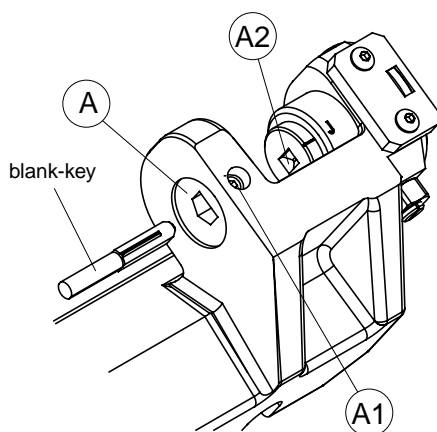

Fig. 13
- 1) place the key blank into the rotating centering clamp (A) (fig.13).
- 1) place the key blank tip into the rotating clamp (A) and push up against the tip stop groove (A2) (fig.13, page 12).
- 2) place the key blank into the rotating clamp (A) and push against the tip stop groove (A2) (fig.13, page 12). Hold the key down in the rotating clamp (A) and tighten the grub screw (A1) with the wrench provided.